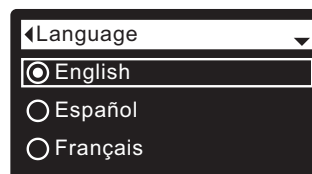

FIG. 55
5. Press the SELECT (O) button to display the Language menu (See Figure 55).
6. If the desired language already has a dot next to it (See Figure 55), go to Step 7. Otherwise, press the DOWN (▼) or UP (▲) buttons to scroll to the desired language, then press SELECT (O) to choose it. The choices are: English, Spanish, French, Italian, German, Dutch, Polish, Russian, Hungarian, Turkish, Lithuanian, Greek, Romanian, Czech, Slovak, Bulgarian, Serbian or Croatian.